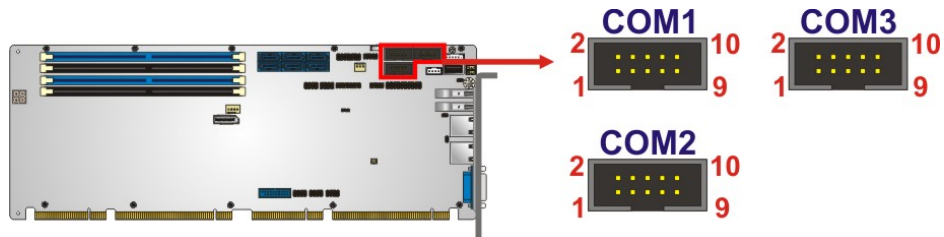

Figure 3-18: RS-232 Serial Port Locations
- CN Location:** See Figure 3-18